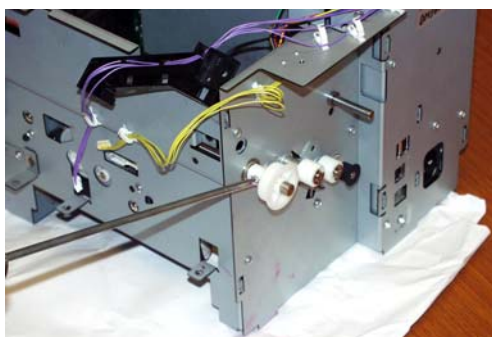
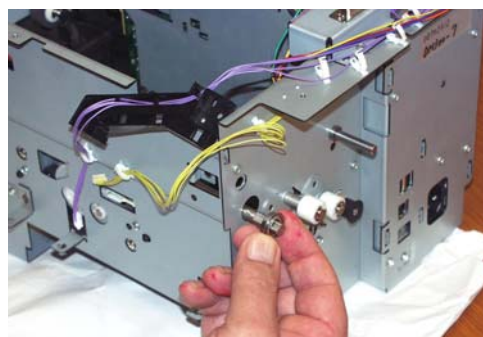

Figure 5-48 Removing Drive Shaft Gear
Figure 5-49 Removing Drive Shaft Rear Bearing
3. Remove drive shaft gear as shown in Figure 5-48 and pull bearing off as shown in Figure 5-49.